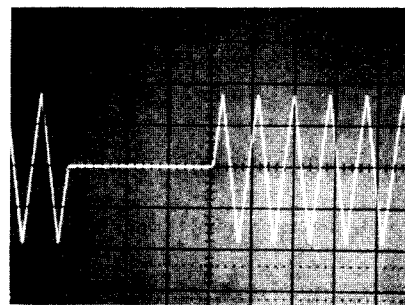

Figure 5-9. Gate Baseline Adjustment
- 2.3 Observe gated output waveform on scope. Adjust A5R115 to center baseline (Figure 5-9).